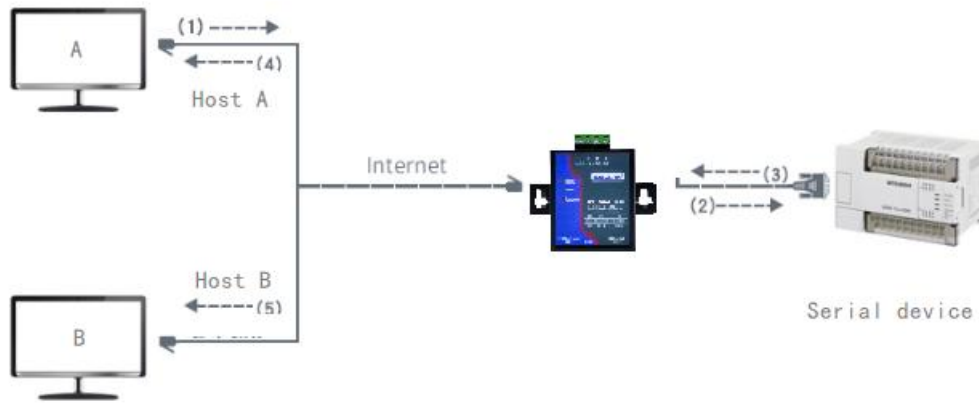

Figure 36 Multi-host function demonstration
As shown in Figure 36, in ordinary mode, when two hosts, host A and host B, are connected to the serial port server at the same time, host A sends (1) instruction, RS485 device receives (2) instruction, RS485 device returns (3) instruction, but the serial port server sends (4) to host A and (5) to host B at the same time. Because host B did not send the query, but it also received the reply instruction (5), host B may generate a communication exception error. In multi-host mode, there will be only instructions (4) and no instructions (5), because the serial server will automatically remember the host that needs to be returned, and only the command will be returned to the most recent communication host, host A queries will only reply to A, host B queries will reply to host B.
As shown in Figure 36, if the serial port device (RTU device) acts as the primary station and the network port device (Modbus TCP device) acts as the secondary station, there are multiple network port secondary devices at the same time. In this case, you can use the serial port server as a client to connect to multiple network ports. For details, see 5.2.2 Connecting a Client to Multiple Servers.